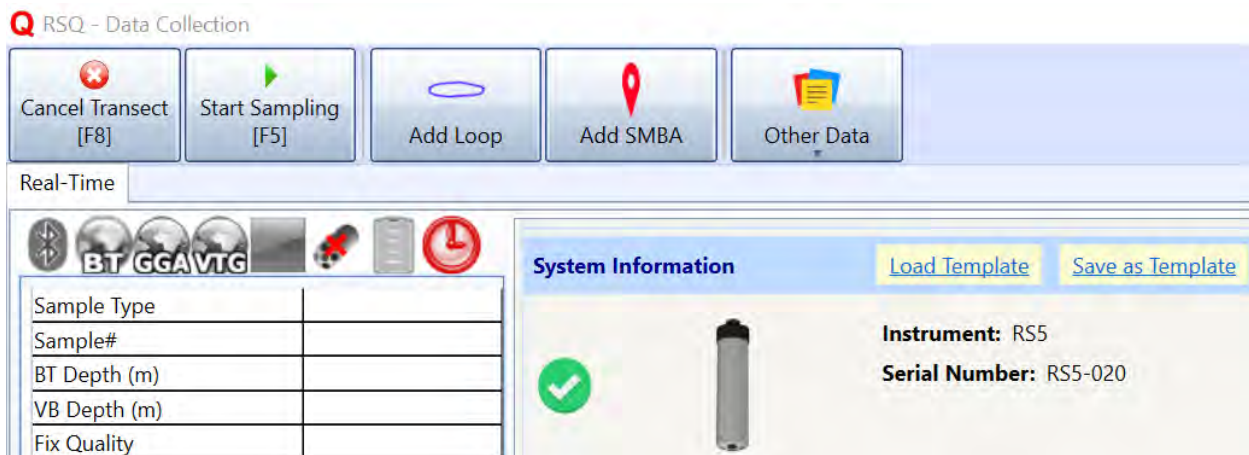
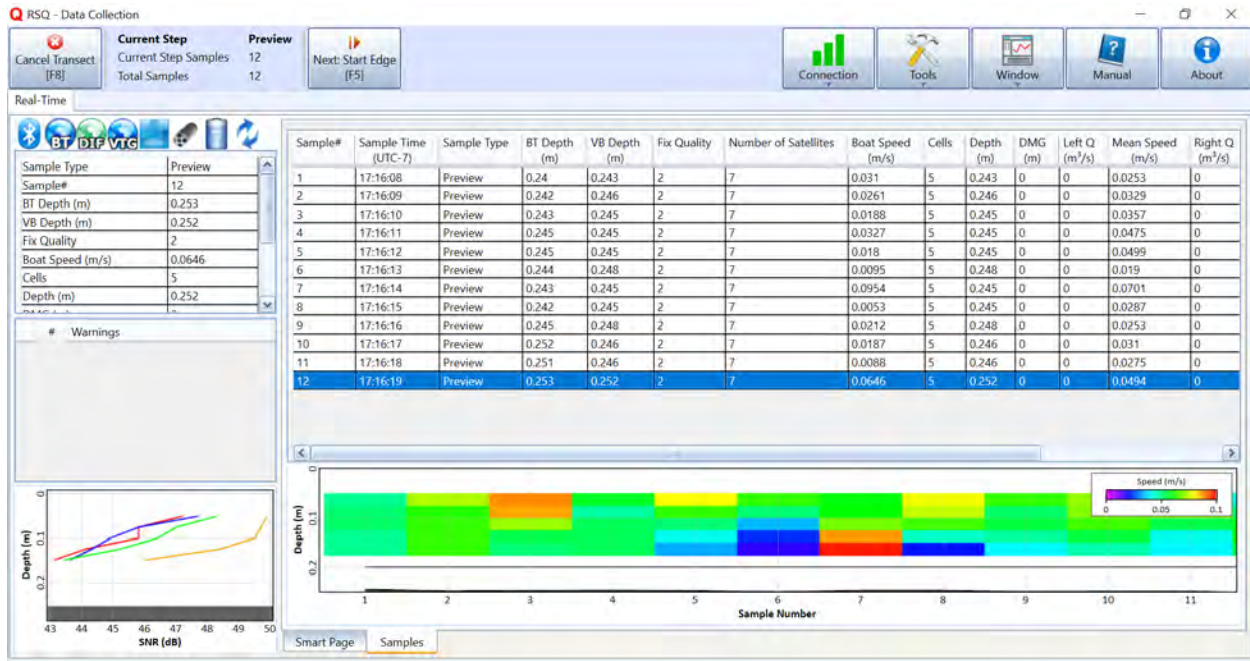

Figure 70. Options for Beginning Data Collection
Figure 78. Start Sampling Preview
After completing the Pre-measurement tests and initial site specific entries to configure the System from the Smart Page, begin the measurement procedure. From the Smart Page screen, the main toolbar will offer various choices to begin a measurement, as shown in Figure 70. Depending on the measurement procedure, the user may be required to perform a moving bed test (Loop or SMBA) prior to collecting transects, or they may proceed to start the main measurement directly. The software provides a step-by-step procedure outlined below. Each step is explained in detail in the following sections.
1. To begin an SMBA moving bed test, press the Add SMBA button from the Smart Page (shown in Figure 70). The dialog shown in Figure 74 will appear.
From the Smart Page, click the Start Sampling button (or use [F5]) to begin data collection (Figure 70). Alternatively, sampling can begin from the Loop or SMBA dialogs by choosing to proceed to the Start Edge. The data preview display will appear (Figure 78).